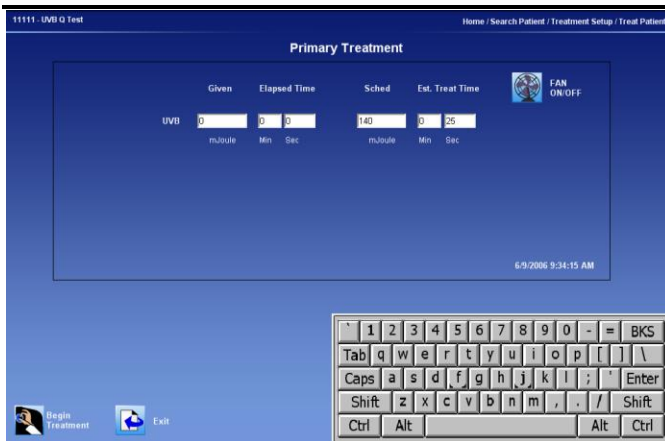

Figure 17 – Treatment in Process Screen
5. Press the **Continue** button. The Treatment in Process screen will appear (See **Figure 17 – Treatment in Process Screen**).